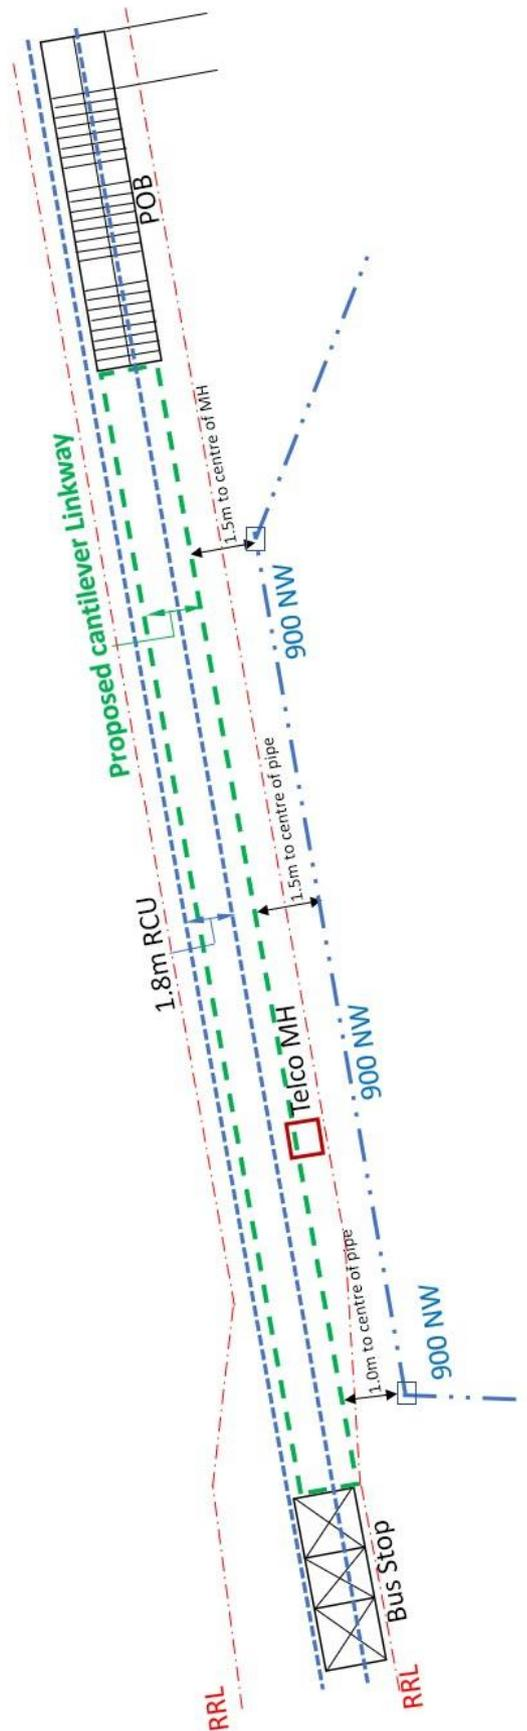

Figure Q7-1
- (a) The preferred alignment has been determined as shown by the 'green' line in Figure Q7-1. The Work falls within the road reserve. Write a report to the Client, advising on the feasibility of the preferred alignment of the proposed linkway based on the site condition. The 1.8m Reinforced Concrete U-Drain (RCU), Telco manhole and 900mm NEWater pipe are existing services.